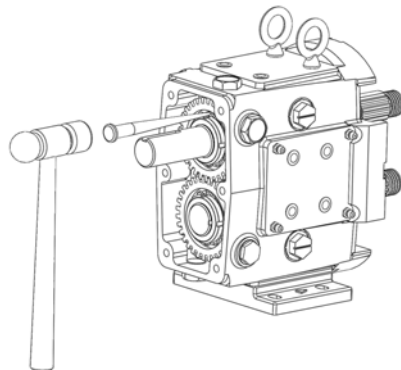
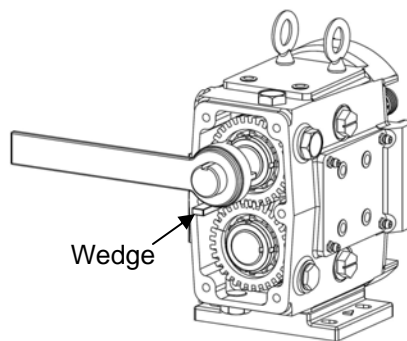

Figure 30: Bending Tabs on Lock Washers
Figure 31: Removing Lock Washers
2) Using a hammer and a punch, bend the tabs straight on the lock washers (Figure 30). Use a wedge (wood or plastic) to keep the shafts from turning while removing the lock nuts (Figure 31). Using a spanner wrench or the nut removal tool (available from Q-Pumps), remove the gear lock nuts. Slowly remove the gears from the shafts. Remove the gear keys and gear spacers from the shafts.